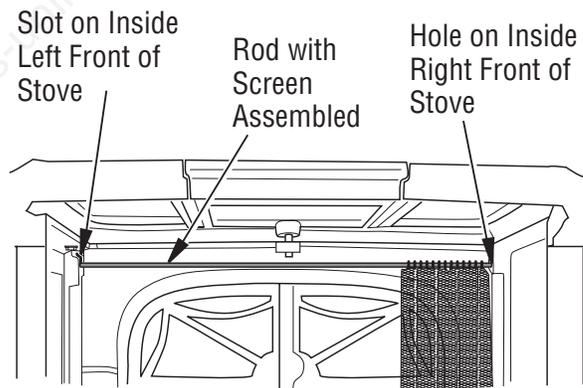

Figure 15 - Installing Screen Into Stove (View From Back of Stove)
2. From back of stove, insert rod into hole located inside right front of stove as shown in Figure 15.
3. Slip left side of rod down into slot on inside left front of stove (see Figure 15).